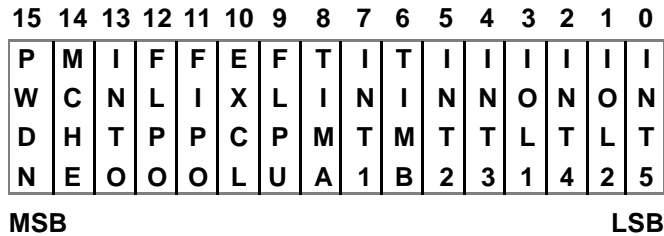

Figure 14. The Pending Interrupt Register (PI)
The Pending Interrupt Register (PI) contains information on pending interrupts attempting to vector the Instruction Counter Register (IC) to a new location. Software or hardware controls the PI. Any system interrupt, when active, sets the corresponding bit in the PI. RISC I/O instructions can also set, clear, and read the PI (figure 14).